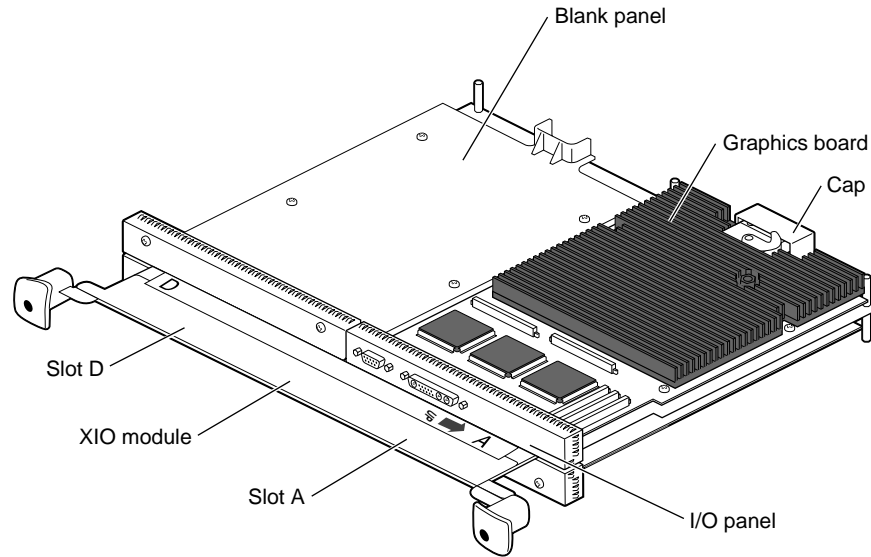

Figure 5-11 Identifying the Slots Used by an XIO Board
Graphics boards may use one slot (A) or two (D and A). Figure 5-11 shows the Octane/SI or SE graphics board in Slot A. Graphics boards using two slots have the I/O connector positioned in slot A.